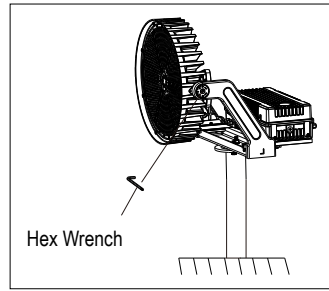

Figure 8
2. Use a hex wrench to loosen the adjustment screw to modify the angle (Figure 8).